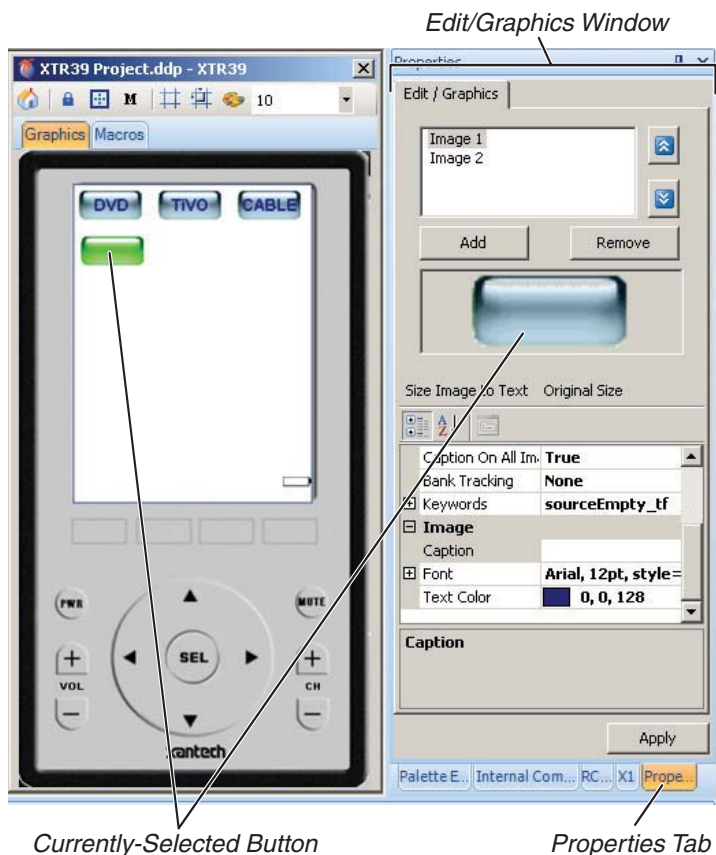

Figure 40: The Edit/Graphics Window
1. Click on the *Properties* tab. The *Edit/Graphics* window will appear (Figure 40), showing the currently-selected button.